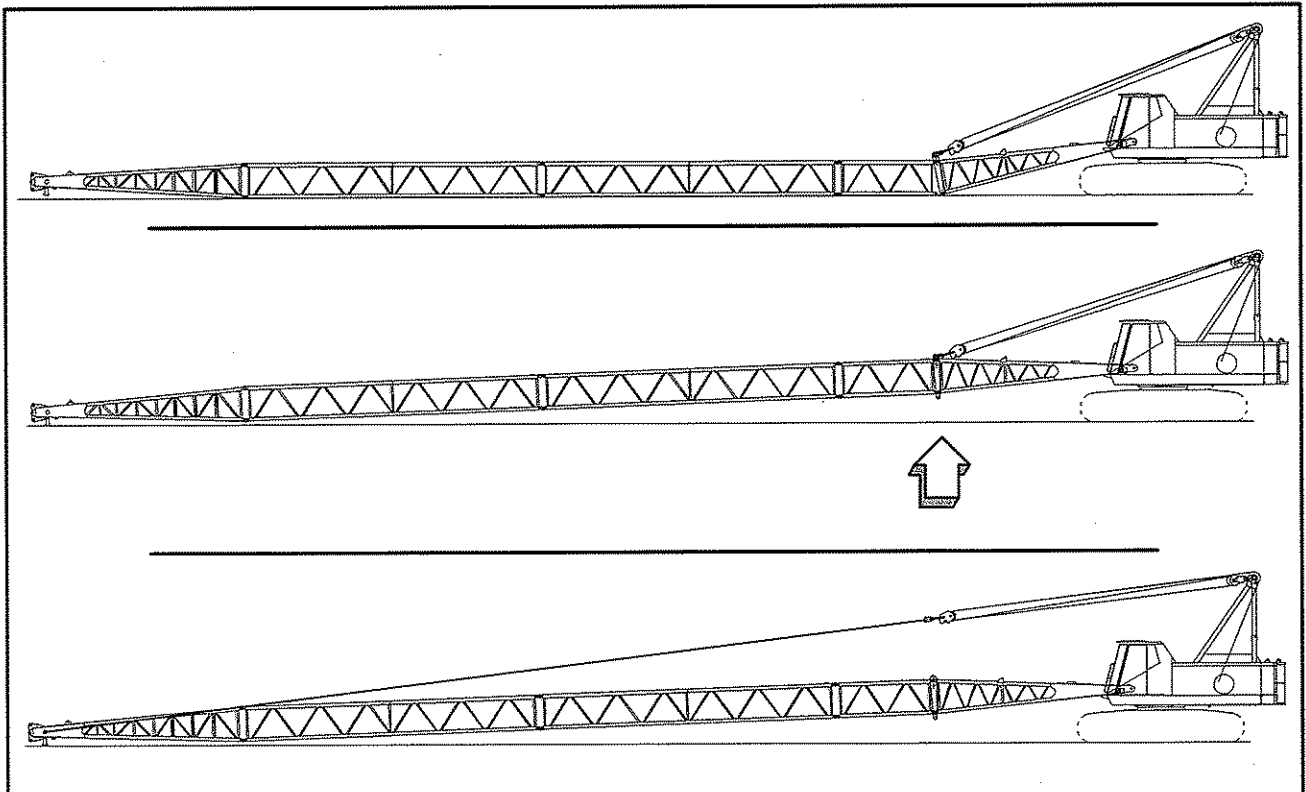

Figure 4–15
7. Disconnect the backstops from the boom base section. Refer to Figure 4–12.
8. Using a auxiliary lifting device of suitable size or helper crane, rig the boom base section for removal and lift to relieve the pressure on the boom foot pins. Refer to Figure 4–11.
9. Remove the capscrews and keeper plates which secure the boom foot pins. Refer to Figure 4–10.
10. Remove the boom foot pins and shims. Refer to Figure 4–10.